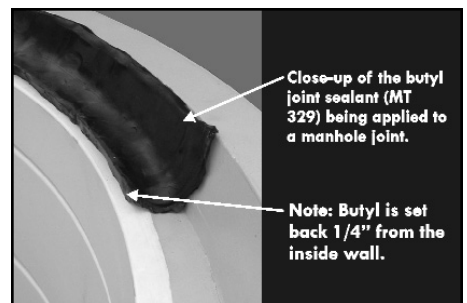

Figure 2 - Butyl Joint
6.2 The horizontal joints between sections of lined concrete structures can be made by either butyl or a combination of butyl and rubber joint per the recommendation of the concrete manufacturer. (See Fig. 2)